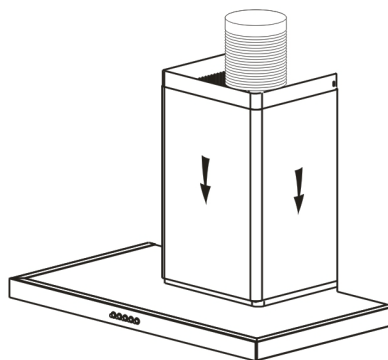

fig. 7
- Coloque as 2 chaminés sobre o exaustor (fig. 7).